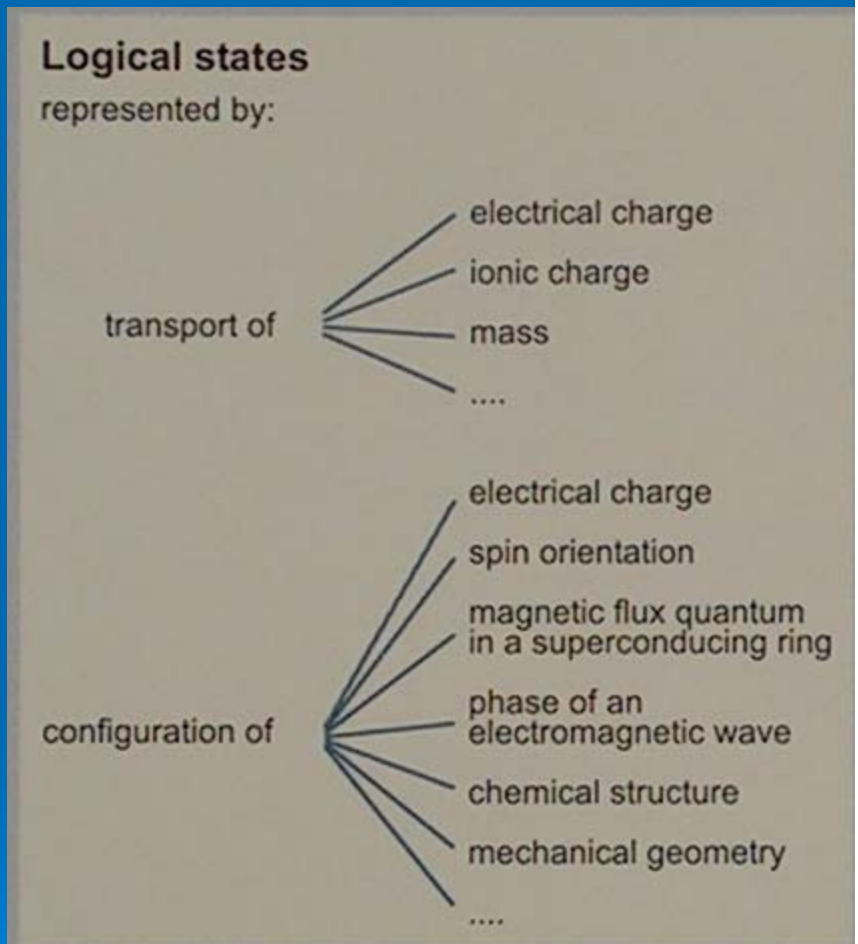

Figure 13: Examples of input and output signals of logic devices.
- Logic states can be represented by (fig 13)